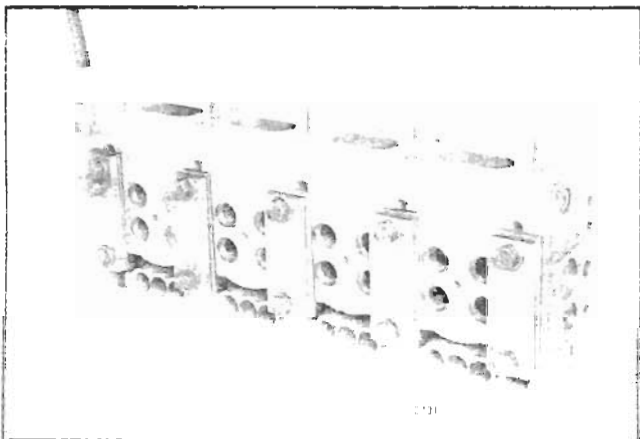

Fig. 6 - Cylinder Head Prepared for Pressure Testing
- a. Seal off the water holes in the head with steel plates and suitable rubber gaskets secured in place with bolts and washers as shown in Fig. 6. Drill and tap one of the cover plates for an air hose connection.